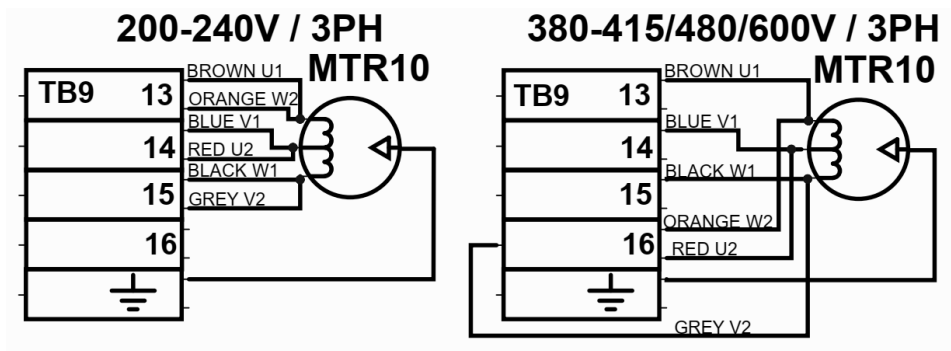

Fig. 24
6. Connect blower motor wires to TB9 terminal block in the control box. Strip wires back 10mm and push wire into appropriate TB9 terminal until it clicks. Gently pull on the wire to ensure it is properly seated. Ensure motor is wired per machine voltage (see data plate for machine voltage) (Fig. 24).